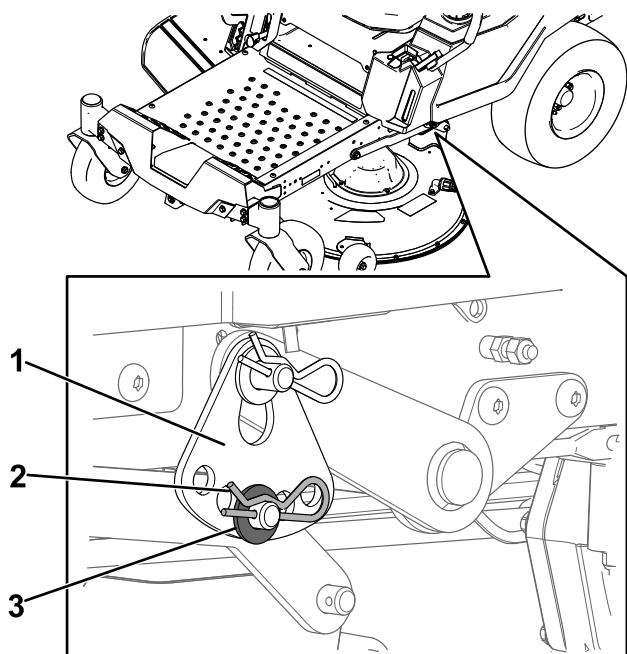

**Figure 68**
4. Place 2 blocks, each having a thickness of 6.6 cm (2-5/8 inches), under each side of the front edge of the deck but not under the anti-scalp roller brackets (Figure 68).
5. Place 2 blocks, each having a thickness of 7.3 cm (2-7/8 inches), under the rear edge of the cutting deck skirt, 1 on each side of the cutting deck (Figure 68).